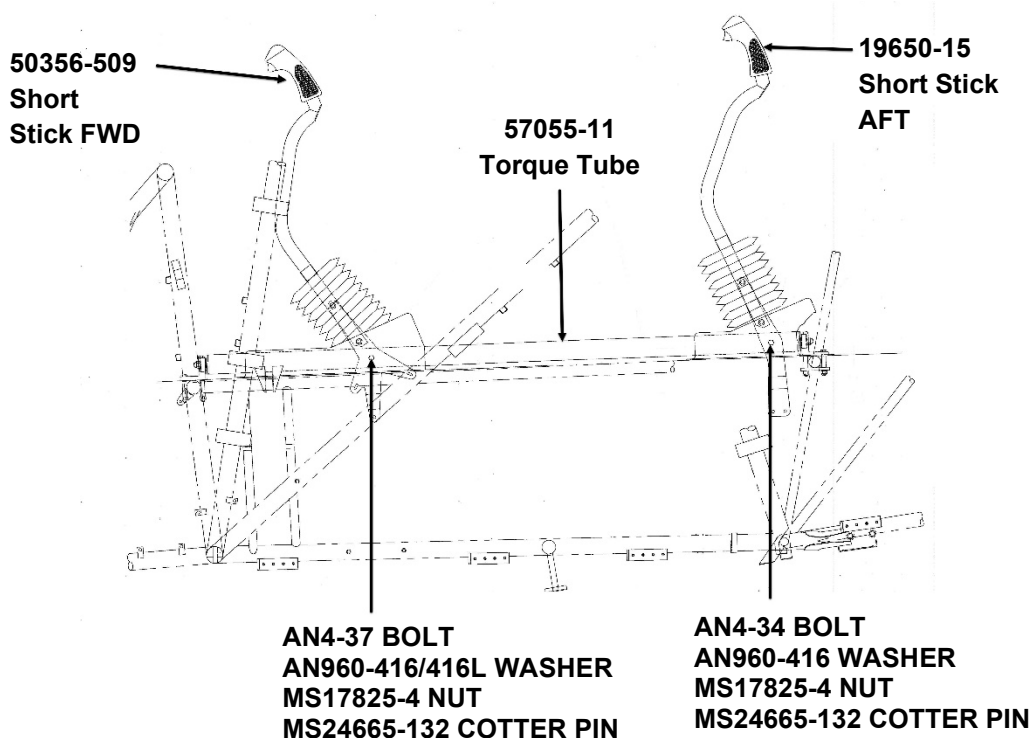

Figure 45-12
5. For Dual Cockpit dual Control configuration **only**, incorporate changes per Figure 45-12 as follows: